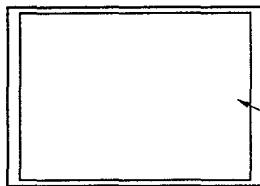

Fig. 1
④ VR903 (V BIAS)
(5) VR908 (H. PHASE)
- Input the COLOR BAR and set the SCAN switch on the FRONT PANEL to UNDER SCAN position. Then, adjust VR908 so that the picture can be positioned at the center of the raster.(See Fig.1)